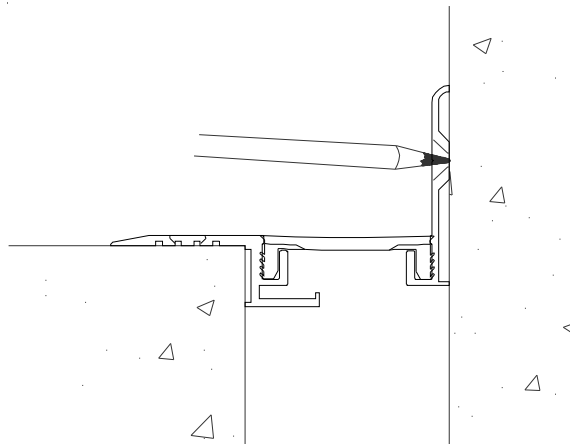
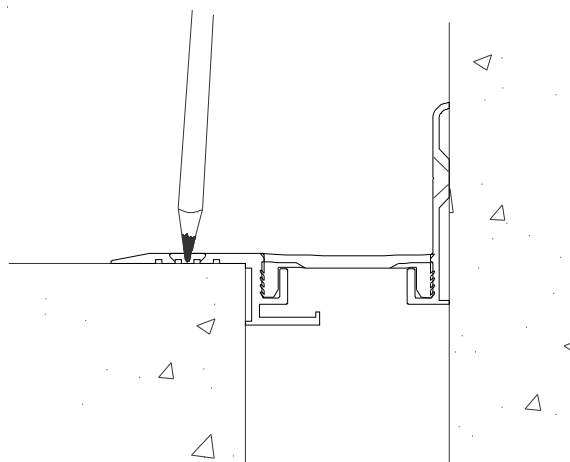

Figure 7
Figure 8
STEP 10. Using the assembled joint cover as a template, mark the location for an anchor on the concrete (see Figure 7 and Figure 8). Attach the base member to the high section of the high side of the joint first. Drill the anchor hole into the concrete at the marked locations. Drill the anchor holes 1/4" deeper than the length of the anchors. Clean away all dust and debris from the substrate.